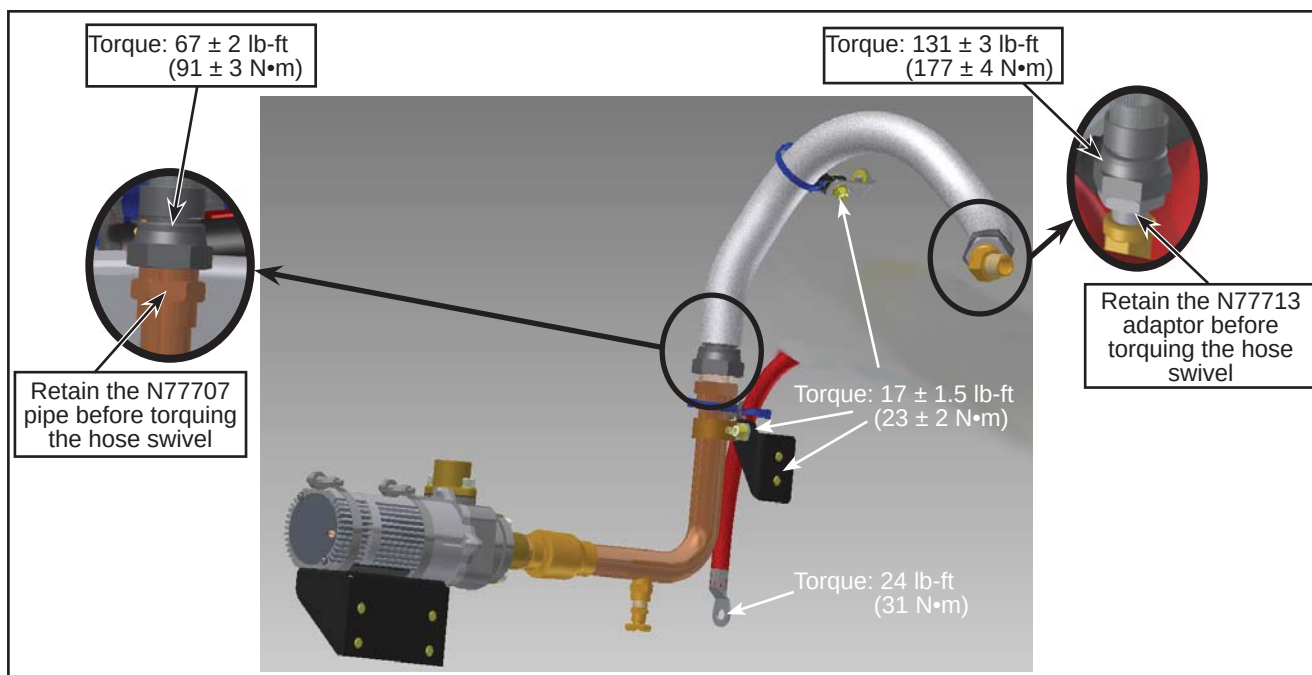

Figure 10 - Specified Torque Values
- 1.17. Torque all the fittings and screws to their specified values. See Figure 10.
- 1.18. Install the positive battery cable on the firewall connector. Use the retained hardware. Torque to the specified value. See Figure 10.